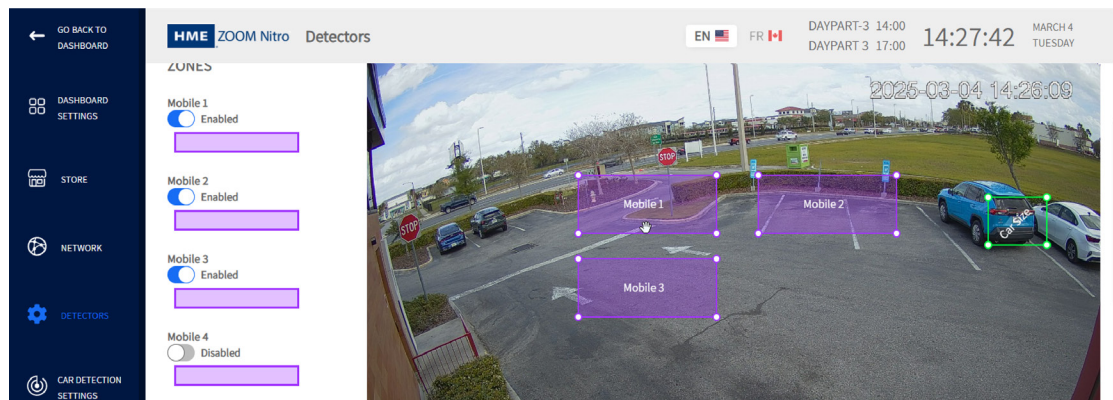

Fig. 23
- If Pick-Up Zones is selected, toggle the switch to enable a zone, and a polygon (in purple or blue) will appear in your camera view. Fig. 23 shows Mobile 1, 2, and 3 enabled, so three purple polygons appear in the camera view. When you move the cursor over a polygon, it becomes a hand which allows you to drag it into position.